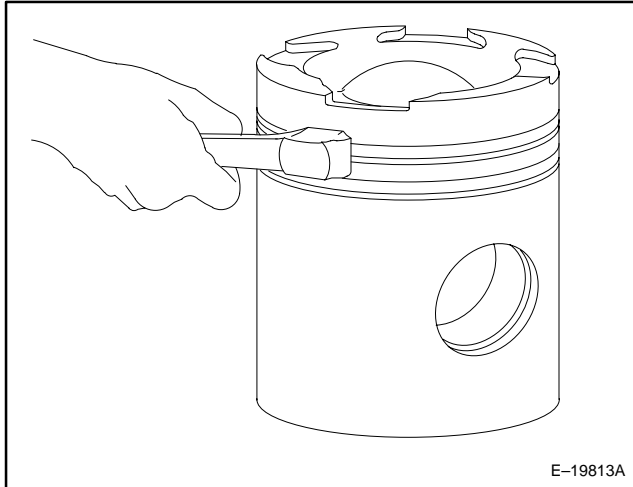

Figure 22. Cleaning Piston Ring Grooves With Scraper (Typical).
- Remove the old rings and discard. Clean the carbon from the ring grooves using the piston ring groove scraper (Figure 22 and refer to Section 20., SPECIAL TOOLS) to assure full ring side clearance.